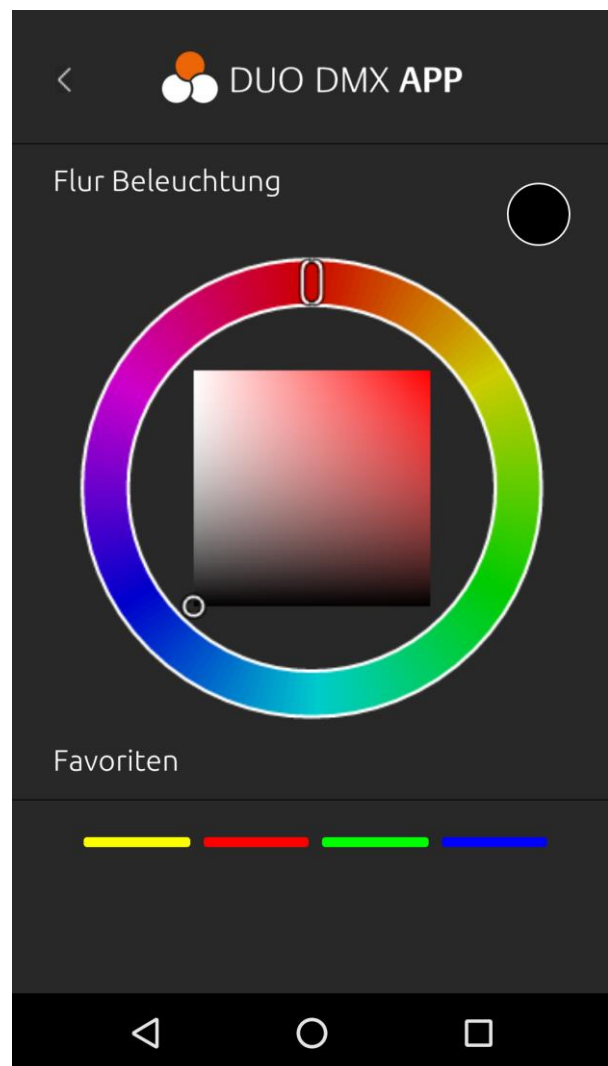

Figure 65 RGB(W) lamp 3(4) channel
- 1. Screen for the control of RGB or RGBW lamps (controlled by a colour circle; Figure 65 RGB(W) lamp 3(4) channel)
NOTE: In case that one of the favourite colours has to be changed, the colour can be directly changed in the “Lamp control”. It is not necessary to switch to the settings of the APP. To do so, the currently pre-set colour is applied by pressing and holding one of the four fields of the favourite colour for a longer time (see Figure 65 RGB(W) lamp 3(4) channel).